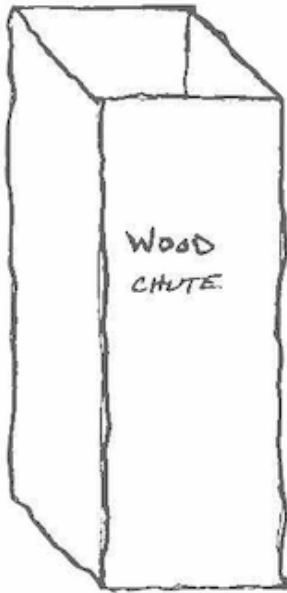

Figure 8 - Wood Chute Assembly. (Image credit: Future Generations University)
20. Time to modify the barrel! Referencing Figure 8 for measurements, use either a grinder with a cutting wheel or a plasma cutter to cut rectangular holes for the Wood Box and Ash Pan and opposite those cutouts (back of barrel), cut out a round hole for the stovepipe coupler.